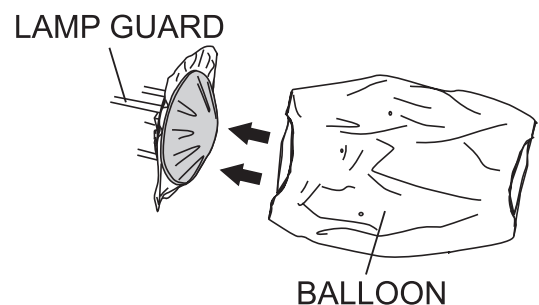

Figure 30. Removing the Balloon
3. Slide the new balloon over the top of the lamp guard as shown in Figure 30. Zip up the zipper at the bottom and top of the balloon.